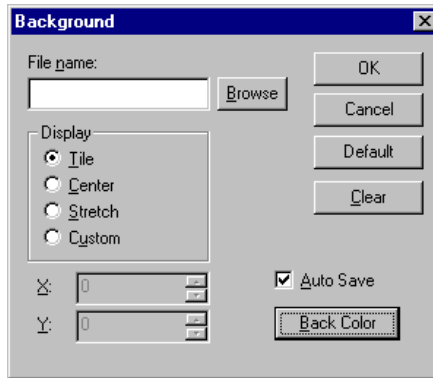

Figure 2-7. Background Dialog
1. Choose **View** ⇒ **Background** to open the Background dialog (Figure 2-7).